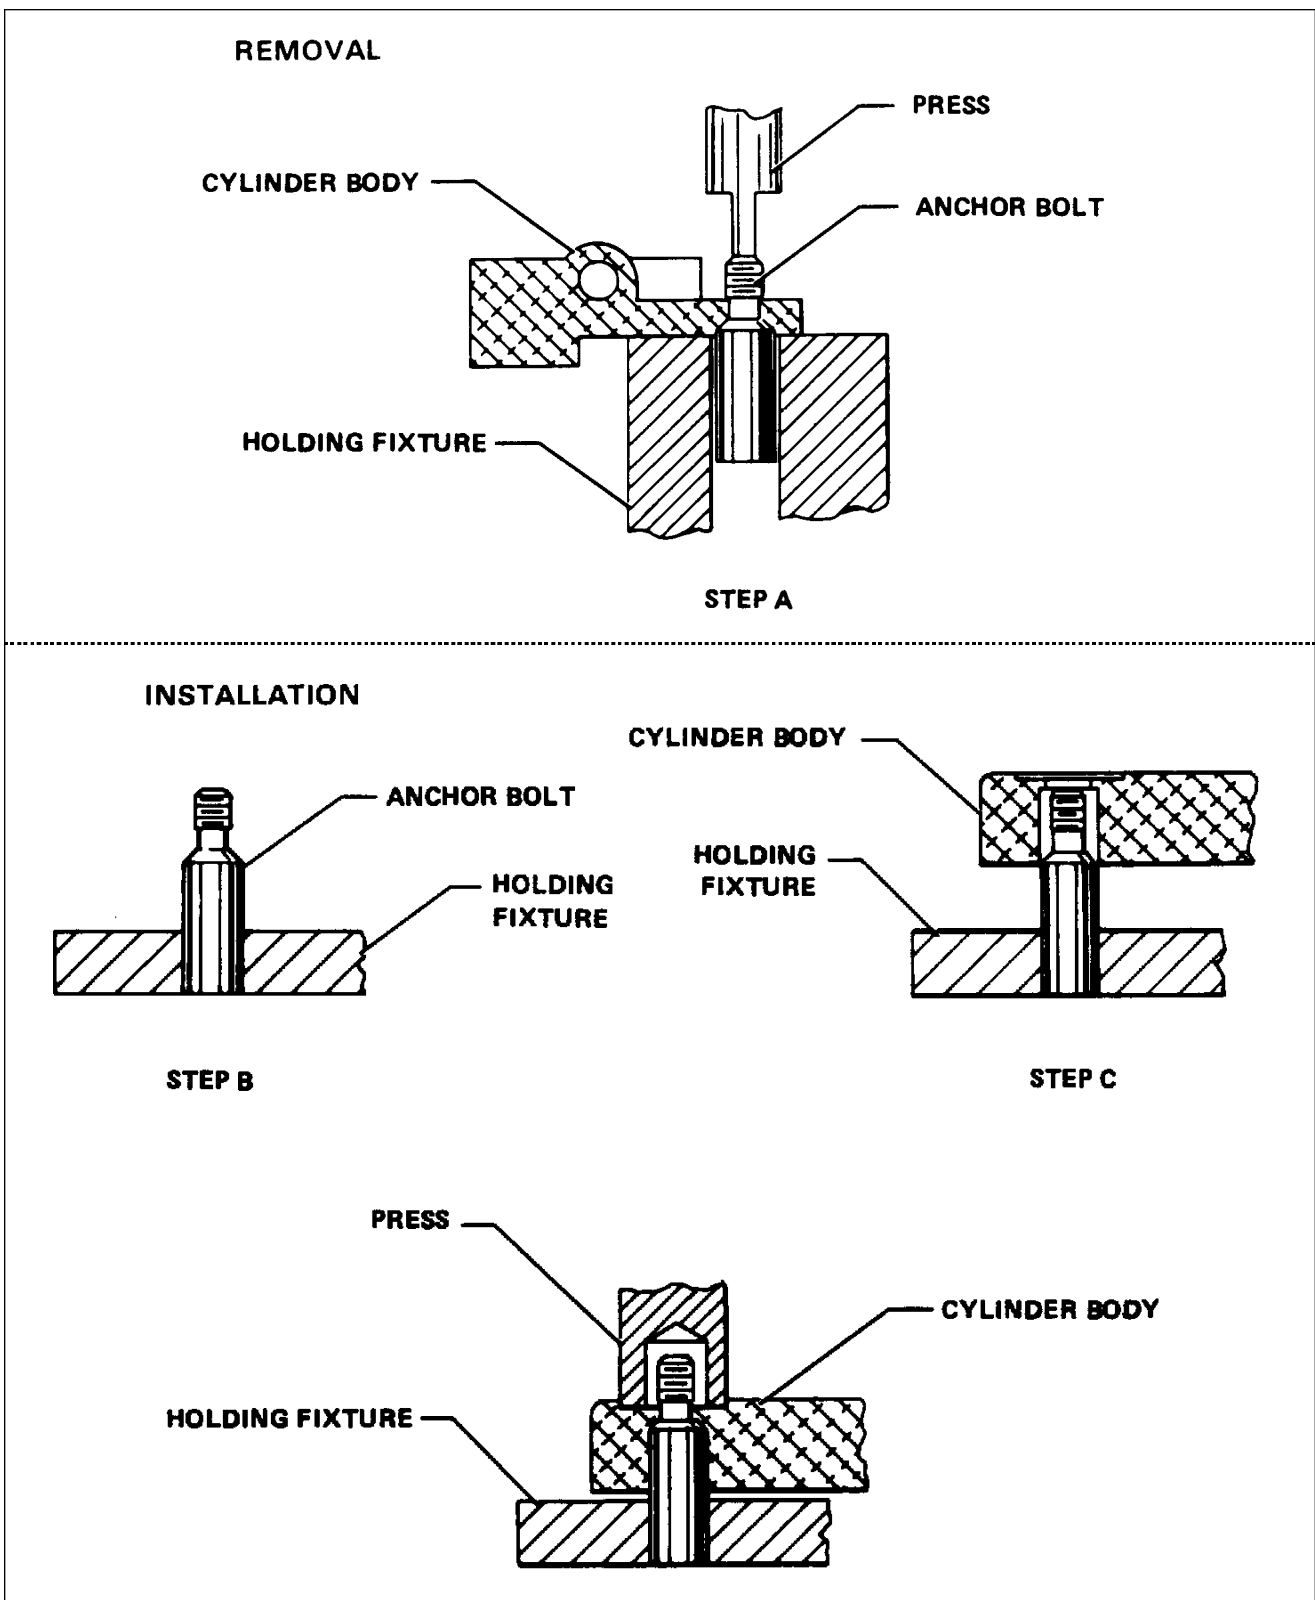

Figure 32-12. Removal and Installation of Anchor Bolts
- a. Position cylinder assembly on a holding fixture. (Refer to Figure 32-12.)
- a. Support anchor bolt in a holding fixture. (Refer to Figure 32-12, Step A.)
- b. Align cylinder body over anchor bolt. (Refer to Figure 32-12, Step B.)
- c. Use a suitable arbor press and apply pressure on the spot face directly over anchor bolt hole. (Refer to Figure 32-12, step C.)